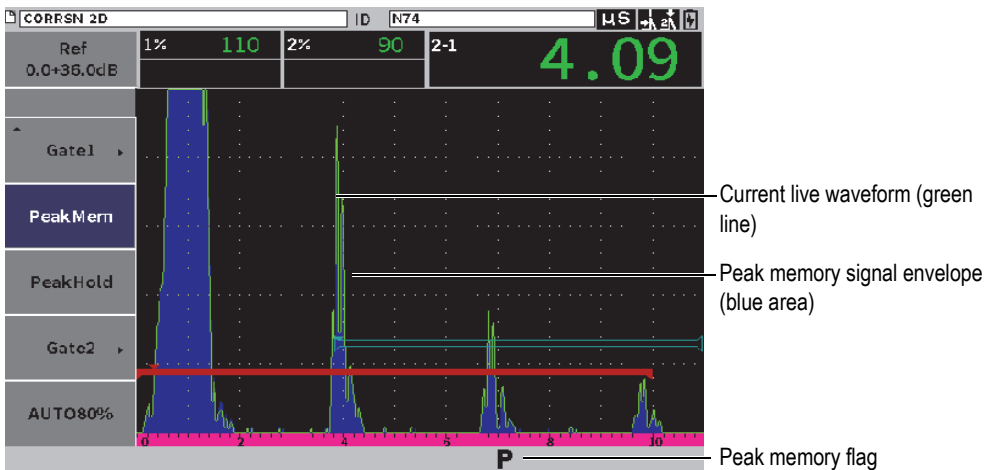

Figure 7-11 Peak memory signal envelope example
The peak memory function enables on-screen capture and storage in memory of the amplitude of each A-scan acquisition. When you scan the transducer over a reflector, the peak memory signal envelope (echo dynamic as a function of transducer position) is retained on the screen in blue (see Figure 7-11 on page 85). The display updates whenever a signal of greater amplitude is acquired. In addition, the current, live waveform is displayed at the appropriate place within the signal envelope.
1. With a gate active and the sidebar menu displayed, turn the adjustment knob to select the **PeakMem** button (see Figure 7-11 on page 85).